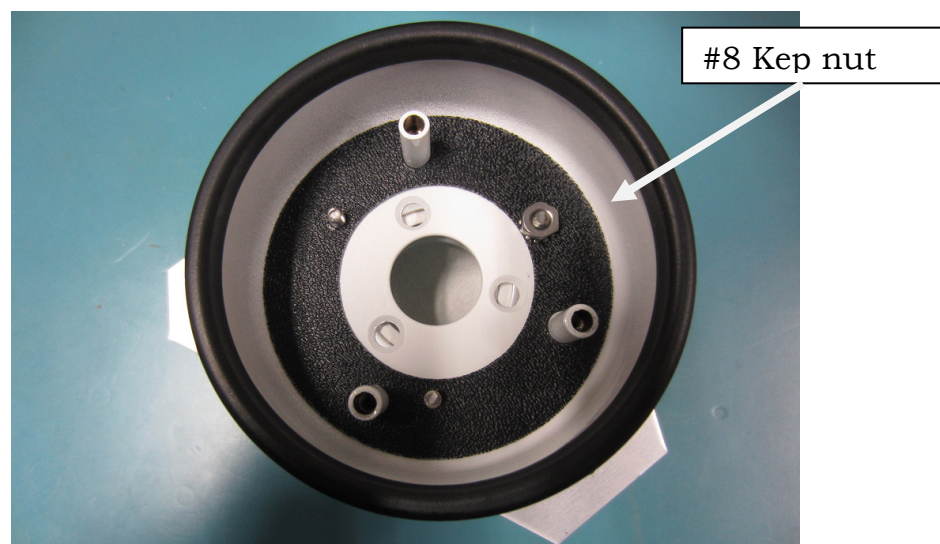

Figure 7
1. With textured side up place the splash shield in the housing as pictured in figure 7. The splash shield will only fit one way; ensure that it is pushed all the way to the bottom. Place the #8 Kep nut as shown and tighten.